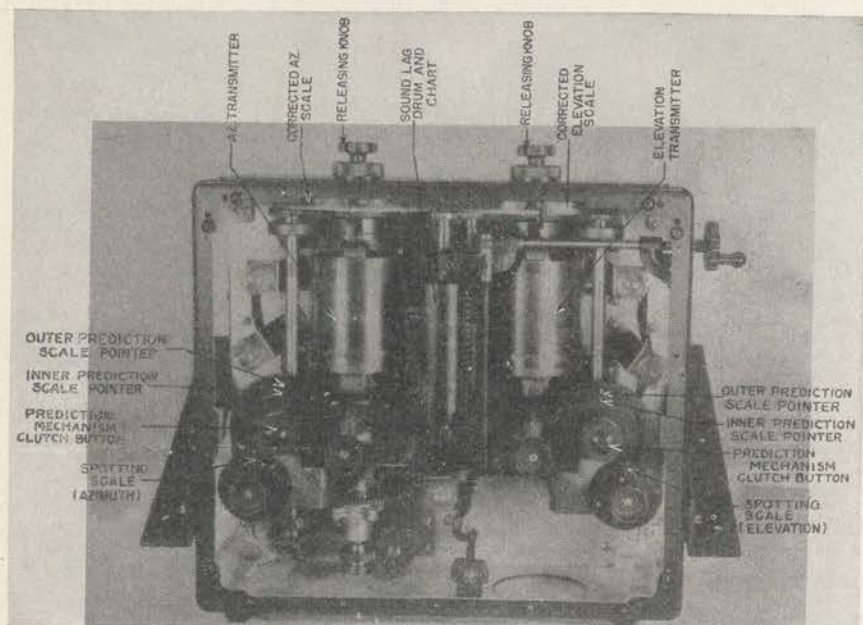

FIGURE 20.—Acoustic corrector M1.
*Q.* Give the nomenclature of the M1 acoustic corrector. *A.* See figure 20.